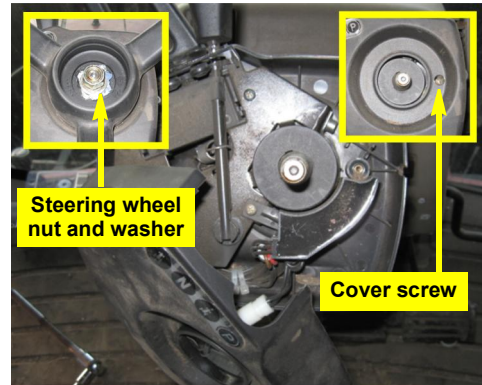

Figure 1b: Steering wheel and covers removed
- c. Remove the cover screw to the right of the steering shaft (Figure 1b right inset) and swing the plastic cover clear.